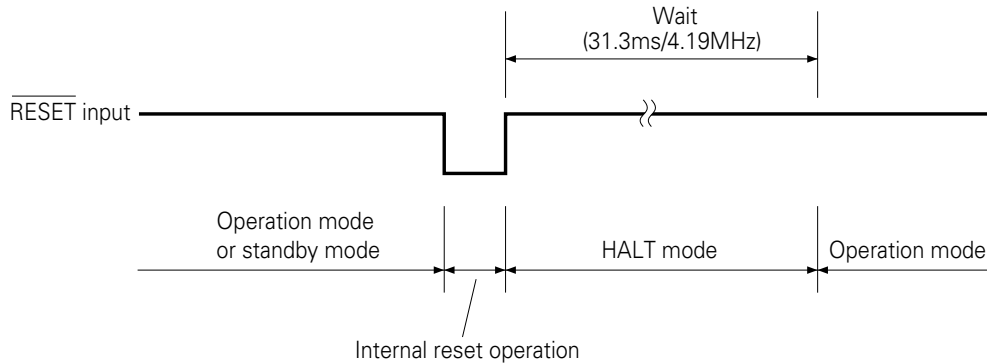

Fig. 8-1 Reset Operation by $\overline{\text{RESET}}$ Input
When the $\overline{\text{RESET}}$ signal is input, the μ PD75316(A) is reset and each hardware is initialized as indicated in Table 8-1. Fig. 8-1 shows the reset operation timing.